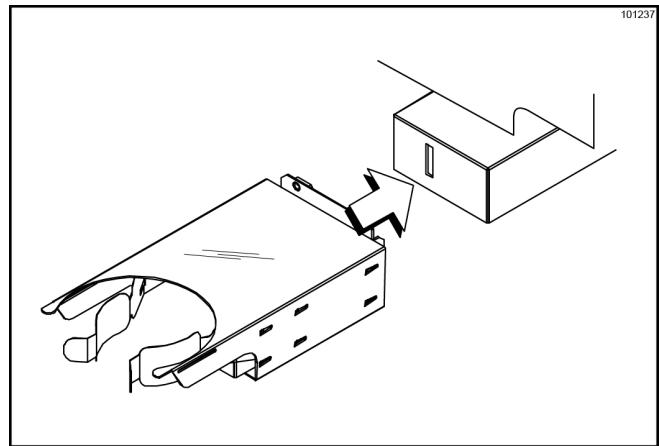

Figure-168
3. Install the shake cup holder. (See Figure-168.)